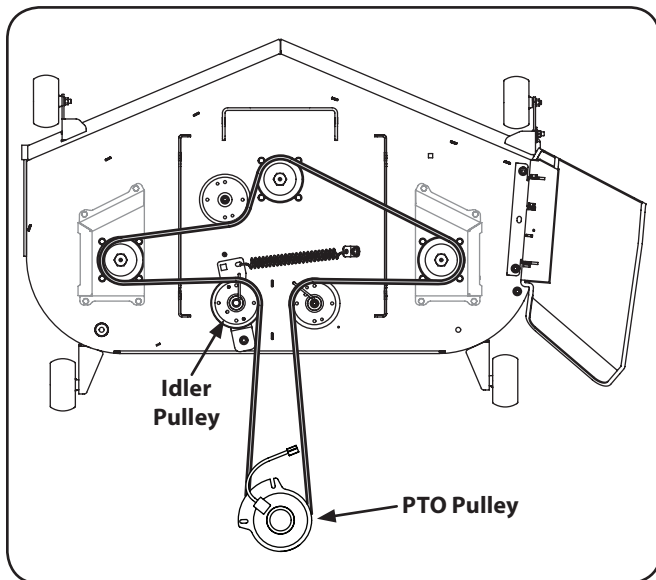

Figure 7-9
- Route the belt as shown in Fig. 7-9. After routing the belt around the PTO pulley, use a ½" drive in the idler pulley bracket and turn towards the back of the tractor to finish routing the belt around the idler pulley.